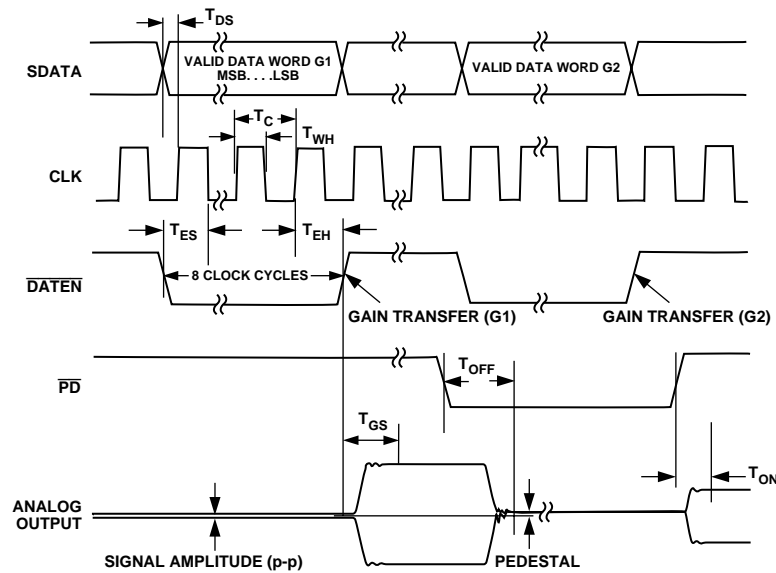

Figure 43. Serial Interface Timing
To update the AD8320 gain, the following digital load sequence is required. The attenuation setting is determined by the 8-bit word in the data latch. This 8-bit word is serially loaded (MSB first) into the shift register at each rising edge of the clock. See Figure 43. During this data load time (T), $\overline{\text{DATEN}}$ is low and the data latch is latched holding the previous ($T - 1$) data word keeping the attenuation level unchanged. After eight clock cycles the new data word is fully loaded and $\overline{\text{DATEN}}$ is switched high. This enables the data latch (becomes transparent) and the loaded register data is passed to the attenuator with the updated gain value. Also at this $\overline{\text{DATEN}}$ transition, the internal clock is disabled, thus inhibiting new serial input data.
The timing diagram for AD8320's serial interface is shown in Figure 43.